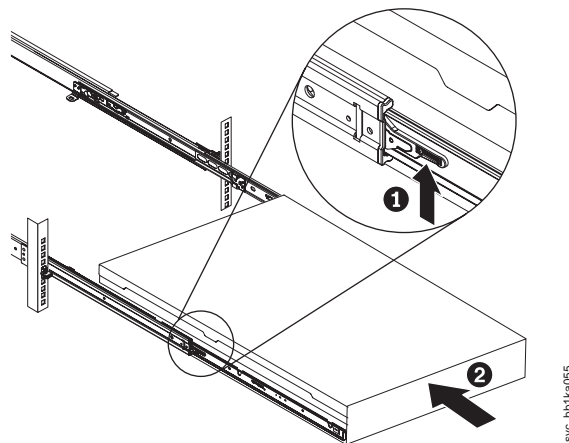

Figure 41. Raising the SAN Volume Controller 2145-CF8 locking levers of the slide rails of the rack
- 2. Lift the locking levers (**1** in Figure 41) on the slide rails and push the server **2** all the way into the rack until it clicks into place.